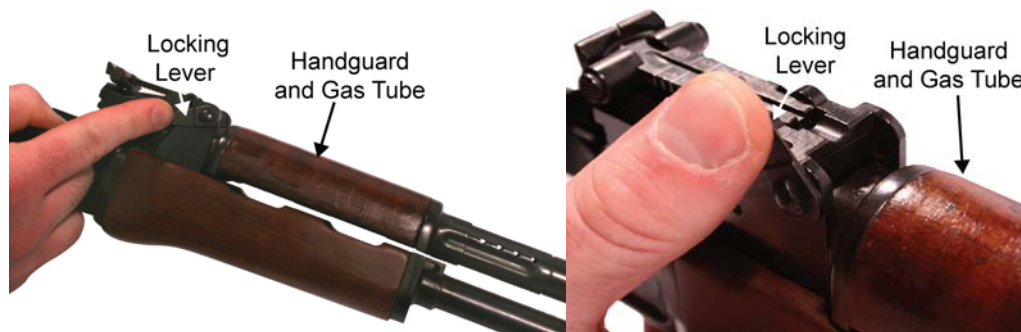

Figure 10. Pushing the Locking Lever to the Up Position.
- a. To remove the gas tube and handguard, push upward on the locking lever until it clears the rear of the gas tube and handguard. Refer to Figure 10.